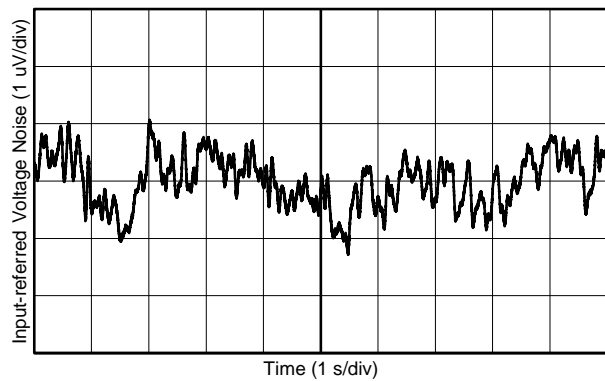

Figure 12. 0.1-Hz to 10-Hz Noise
0.1-Hz to 10-Hz Noise	Figure 12